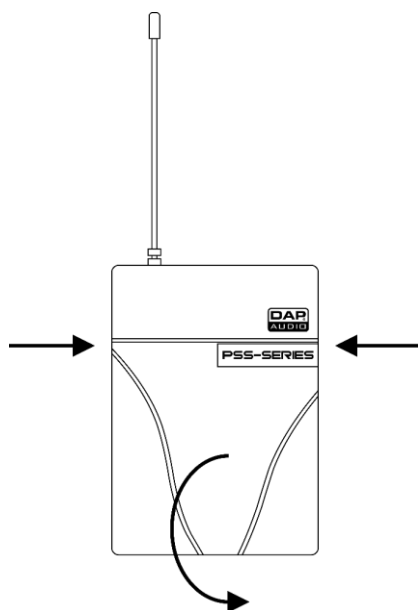
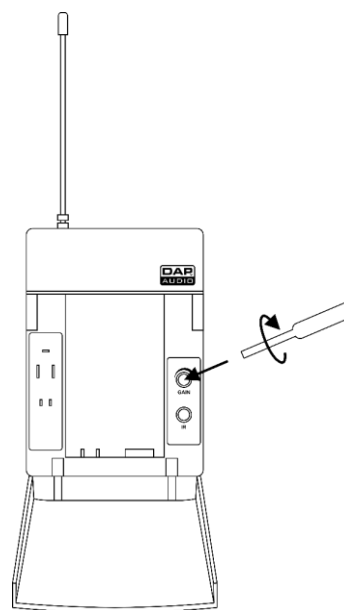

Fig. 12
Fig. 13
- 01) Press on the sides of the beltpack and open the battery cover (Fig. 12) to gain access to the battery housing (Fig. 13).
- 02) Use the included plastic screwdriver to set the beltpack's input sensitivity (Fig. 13).